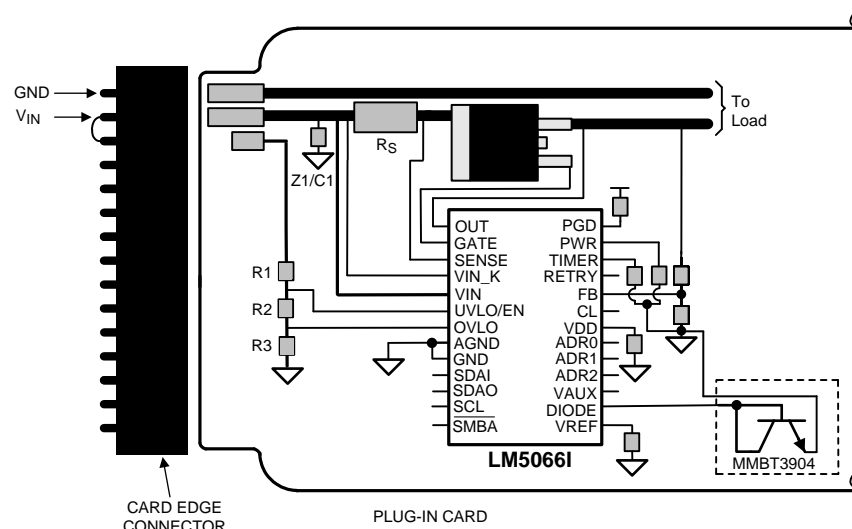

Figure 51. Recommended Board Connector Design
9. The board's edge connector can be designed such that the LM5066I detects through the UVLO/EN pin that the board is being removed, and responds by turning off the load before the supply voltage is disconnected. For example, in Figure 51, the voltage at the UVLO/EN pin goes to ground before V_{IN} is removed from the LM5066I as a result of the shorter edge connector pin. When the board is inserted into the edge connector, the system voltage is applied to the LM5066I's VIN pin before the UVLO voltage is taken high, thereby allowing the LM5066I to turn on the output in a controlled fashion.